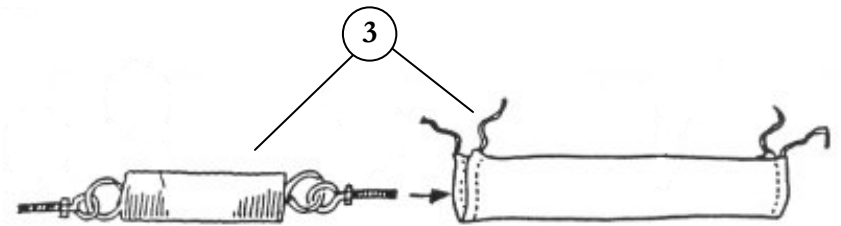

Figure 3
- Spring Sleeves are longer than the Springs and are clumped to fit over the Spring. The sleeve will straighten as the Spring expands. To install, see Figure 3.